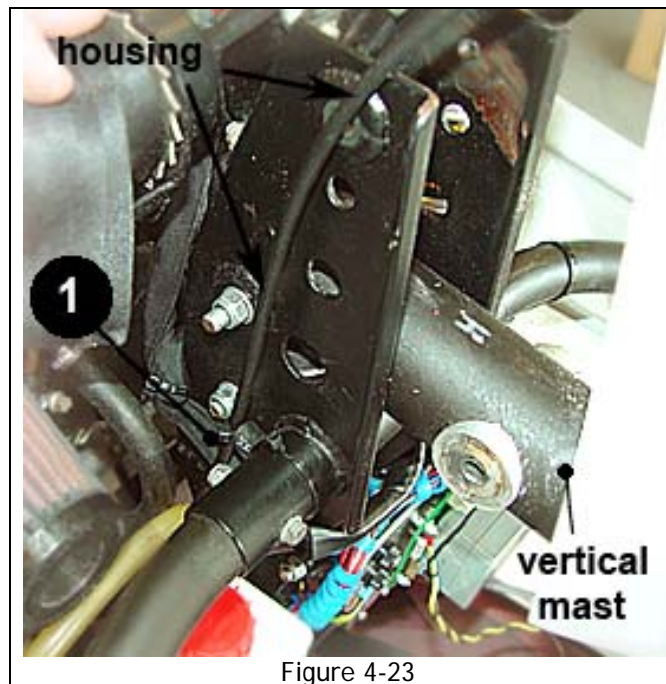

Figure 4-23
4.19 Connect the REAR HANDLE HOUSING onto back side of the seat frame tube, using a Link Stand-off (Item 29) and Cable-tie (Item 33). This attachment is indicated in Figures 4-23 and 4-24 by point ❶.